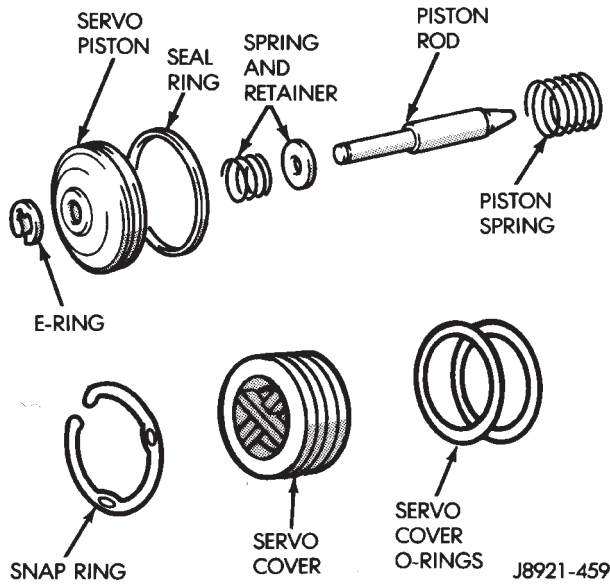

Fig. 104 Second Coast Brake Piston Components
(35) Remove second coast brake piston snap ring with Snap Ring Plier Tool 7540. Then remove piston cover and piston assembly.
(36) Disassemble second coast brake piston (Fig. 104), if necessary.